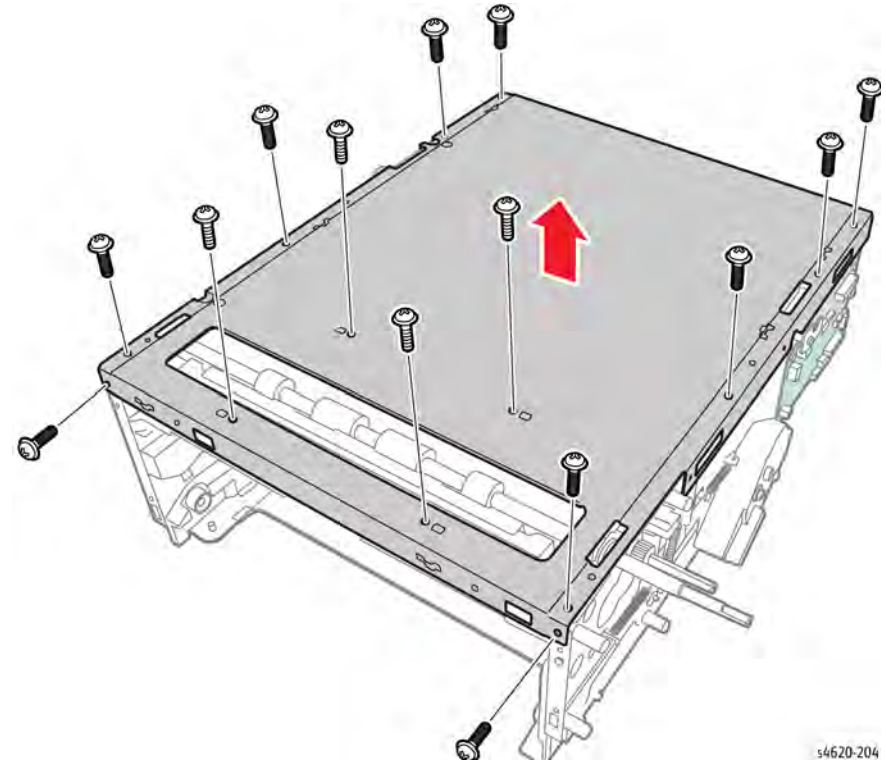

Figure 2 Remove the top cover
11. Remove 10 (metal) and 4 (plastic) screws that secure the cover to the chassis, Figure 2.